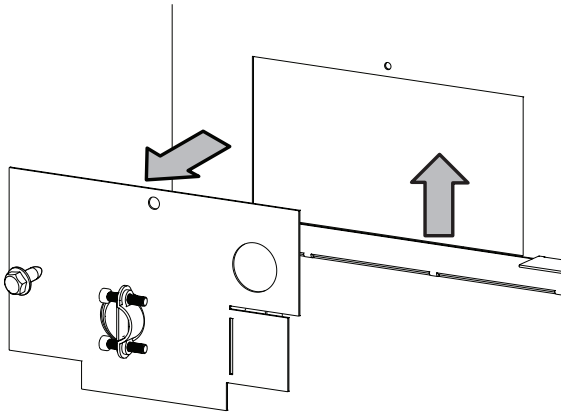

**Figure 31**
- Run 14/2 Nm-B with ground or 12/2 Nm-B with ground wire through the electrical access panel into the Junction box. Secure wiring with the wire connector as shown. Attach the black wire to the receptacle, and the white wires to the receptacle as shown in **Figure 31**. Secure the incoming ground wire and green receptacle ground wires under the green ground screw provided in the junction box. **NOTICE:** If an LK5 Accent Light Kit is to be installed, a separate 120V line will be needed to connect the light kit wiring directly to a wall switch. **See Figure 31.**
- If installing the LK5 Accent Light Kit, then remove the 7/8" diameter knockout in the side of the junction box, install the 7/8" diameter protective grommet, and connect the wiring with wire nuts as shown in **Figure 31**.